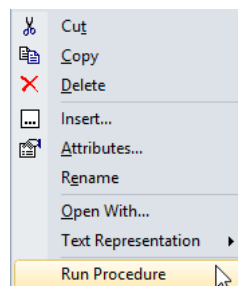

Figure 9.2: The right-mouse menu of the procedure 'ReadFromDatabase'
- ▶ select the **Run Procedure** command using the right-mouse pop-up menu (see Figure 9.2).